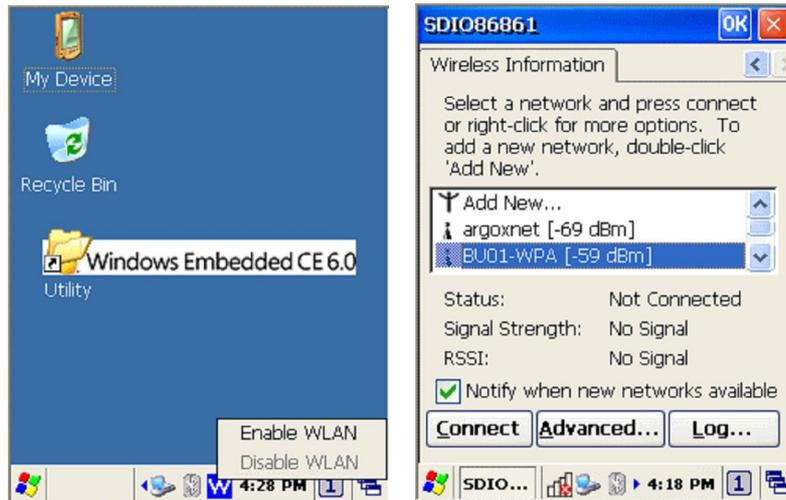

Figure 3-33 WLAN setting
1. After enable WLAN setting, a POP window appears as below. *Figure 3-33*